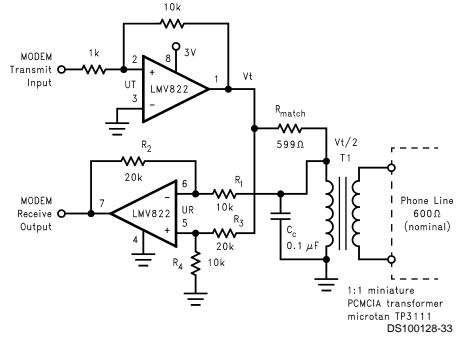

FIGURE 7. Telephone-line Transceiver for a PCMCIA Modem Card
The telephone-line transceiver of Figure 7 provides a full-duplex connection through a PCMCIA, miniature transformer. The differential configuration of receiver portion (UR), cancels reception from the transmitter portion (UT). Note that the input signals for the differential configuration of UR, are the transmit voltage ( $V_t$ ) and  $V_t/2$ . This is because  $R_{match}$  is chosen to match the coupled telephone-line impedance; therefore dividing  $V_t$  by two (assuming  $R_1 >> R_{match}$ ). The differential configuration of UR has its resistors chosen to cancel the  $V_t$  and  $V_t/2$  inputs according to the following equation: